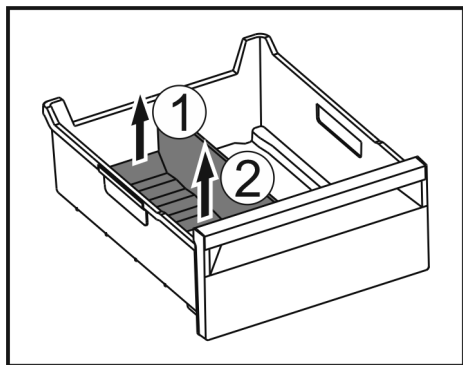

Fig. 155
- Lift the rear part of the ice compartment divider. *Fig. 155 (1)*
- Remove the ice compartment divider upwards. *Fig. 155 (2)*